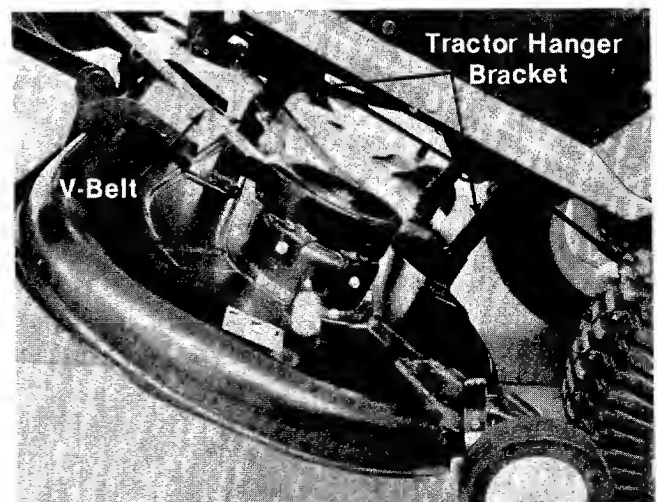

FIGURE 7.
9. Attach the four tractor hanger brackets to the deck with four 1/2" I.D. washers and four medium cotter hairpins. (See figure 7.)